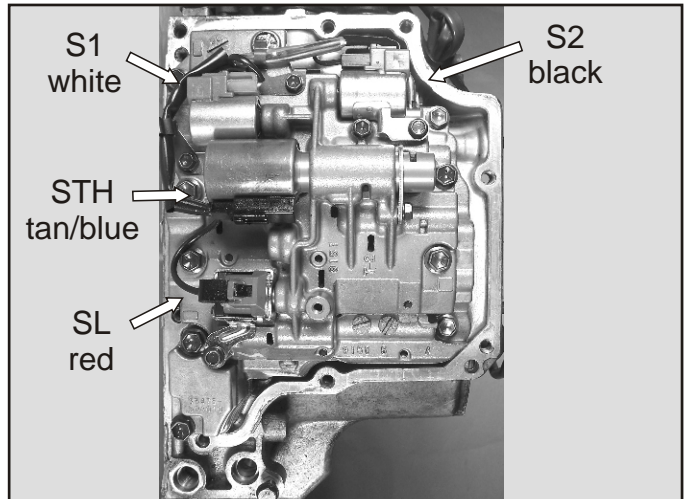

Figure 88
37. Remove the four solenoid connectors shown in Figure 88 and move the internal wire harness away from the valve body retaining bolts. **Note: The wire colors are listed below each solenoid.**